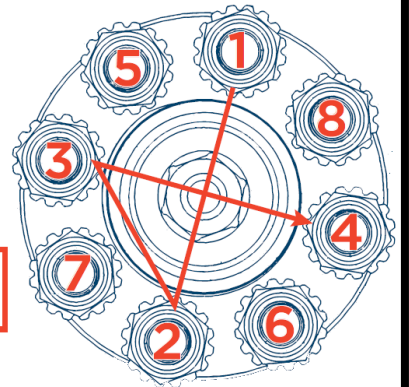

Figure 5: Torque down sequence for access cover adapter flange bolts
9. Begin final torque down procedure for the heavy hex nuts. Working in a star pattern, make two passes at incremental torque levels, see figure 5.